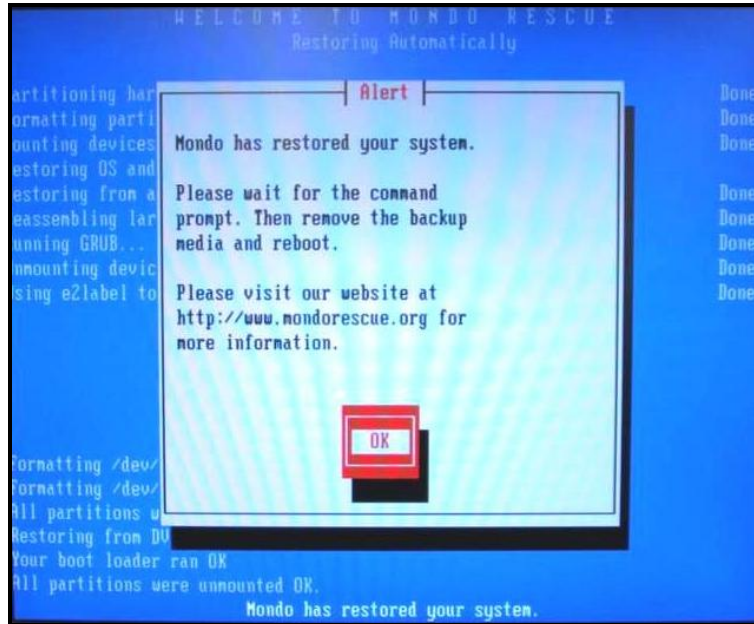

Figure 4: Alert window
5. When complete, an **Alert** window opens, as shown in Figure 4.